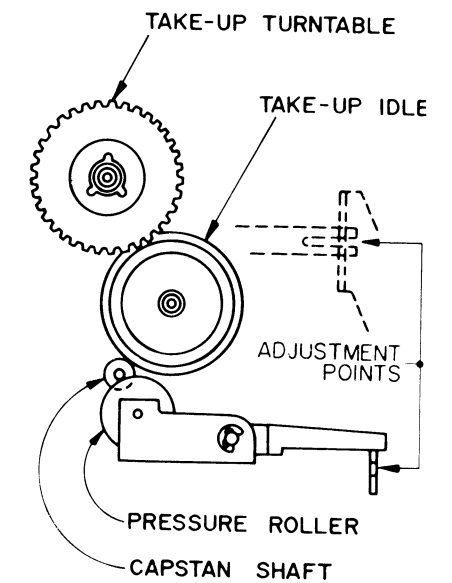

Figure 23
(Refer to Figure 23)
2. If it is found that the checking in the step 1 above is not satisfied, further adjust the adjustment point shown in Figure 23.